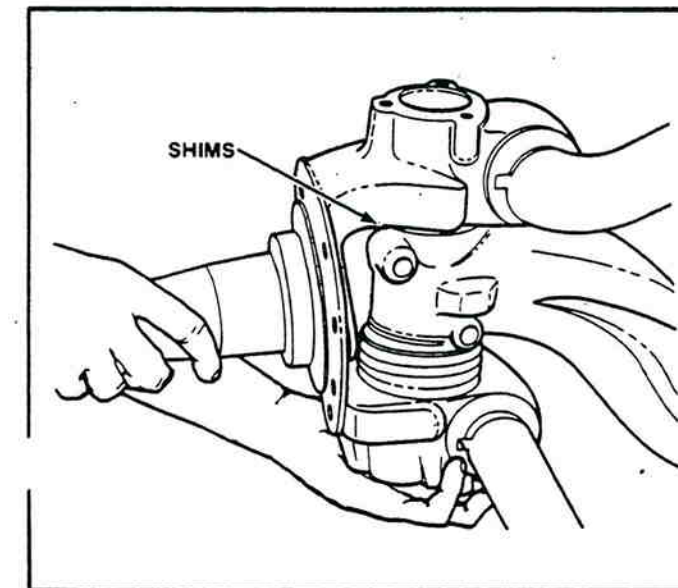

Figure 1-22. Shimming Axle And Knuckle.
3. Shim the knuckle and axle assembly. Shims are positioned between the upper axle center face and the upper knuckle yoke. See figure 1-22. Shims are used to limit the vertical movement of the knuckle with respect to the axle center and king pin. Some clearance in this area is required, however, to allow grease to purge from the upper bushing area. Carefully inspect shims, new or used, to be sure none are kinked, bent or torn. Discard any that are damaged. Select a quantity of shims to obtain as little vertical end play as possible. Lift the knuckle in position and slide the shim pack between the axle center boss and the knuckle upper yoke.